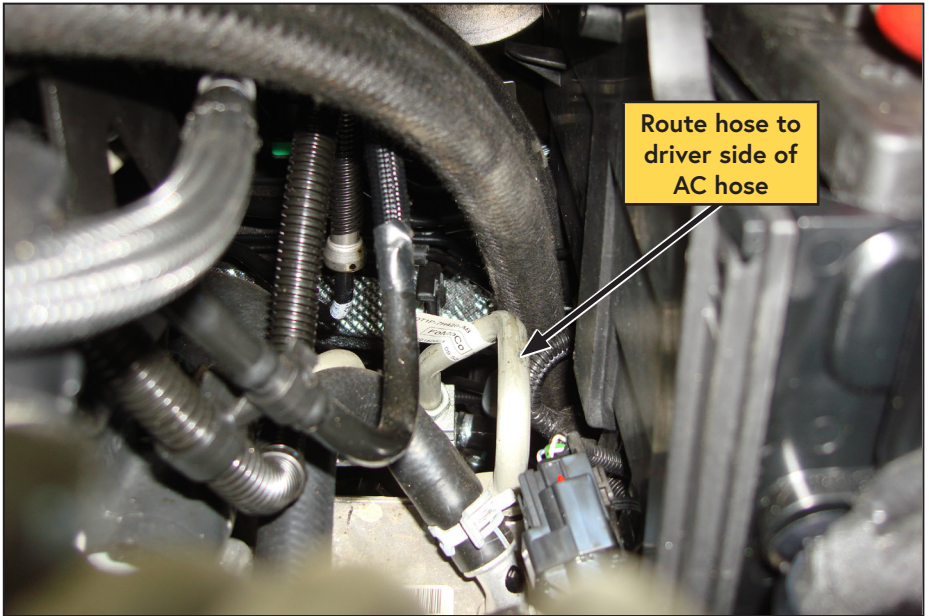

Figure 40 — Hose routing
- Route the hoses between the engine and the firewall, and to the driver side of the AC hose (Figure 40).